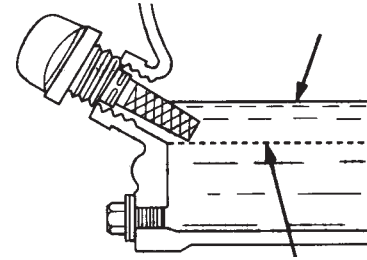

Figure 7. Engine Oil Dipstick (Oil Level)
4. If the oil level is low (Figure 7), fill to the edge of the oil filler hole with the recommended oil type (Table 3). Maximum oil capacity is 3.52 pints.